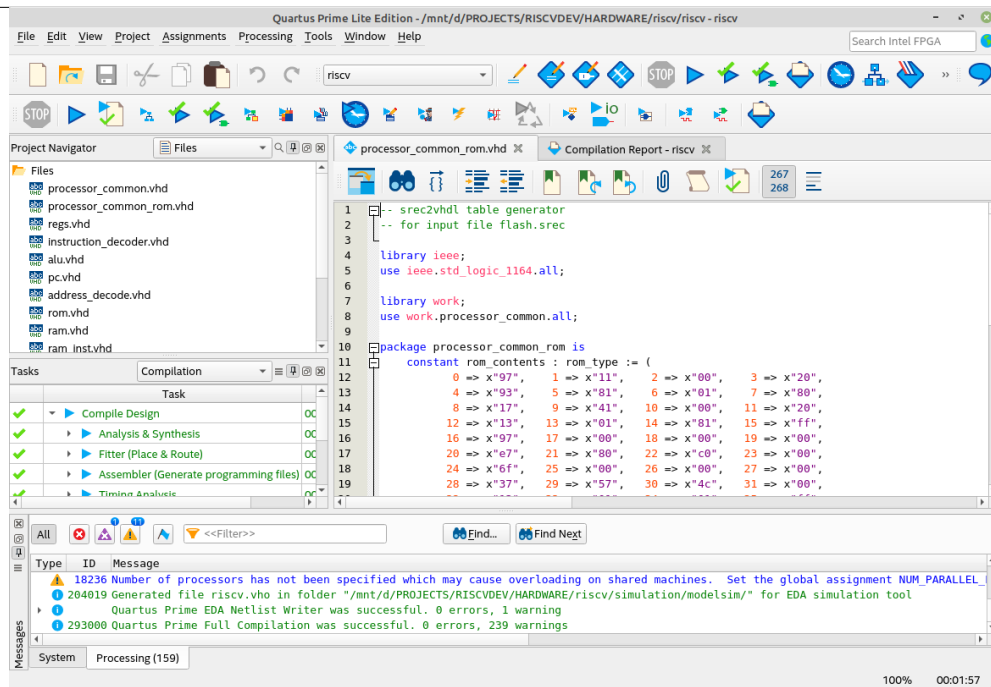

Figure 1: Image of the Quartus project (1).
- Now start the compilation of the VHDL code in Quartus Prime Lite and program the compiled file. This file has the extension `.sof`. See Figures 1 and 2.